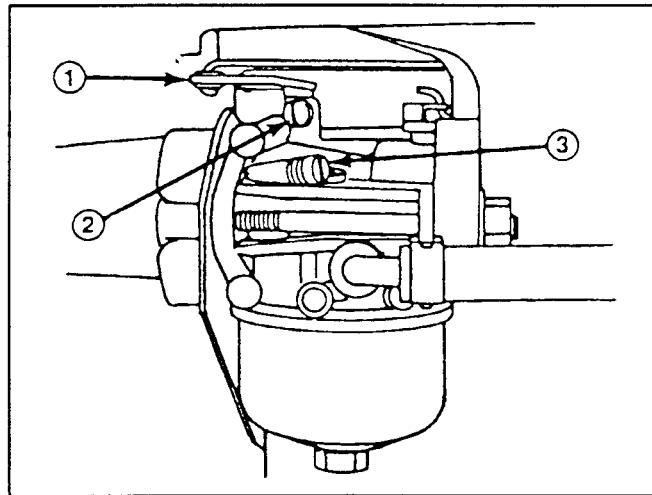

Figure 20
1. Gently turn the idle mixture valve clockwise until it *just* closes (Fig. 20). Turning the valve in too far may cause damage.
4. Turn the throttle (Fig. 20) counterclockwise and hold against idle speed adjusting screw (Fig. 20) while turning the idle speed adjusting screw to obtain 1750 rpm.